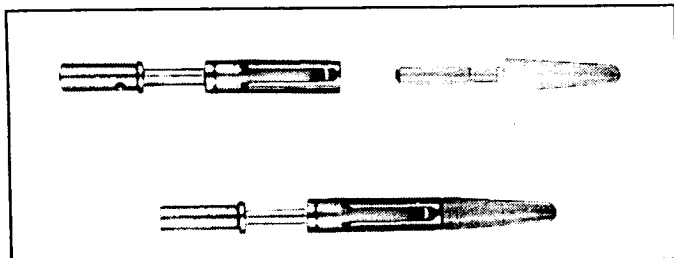

Figure 1
- a. Using Table IV, determine the appropriate tool for contact insertion. Pilot pins may be used to assist in the installation of socket contacts. See figure 1. Pilot pins are available and can be ordered with reference to the following part numbers: 10-242758-16 for size 16 socket contact pilot pins, 10-242758-12 for size 12 socket pilot pins and 10-242758-8 for size 8 socket contact pilot pins. To assist in contact insertion, isopropyl alcohol may be applied to the pilot pins or pin contacts.